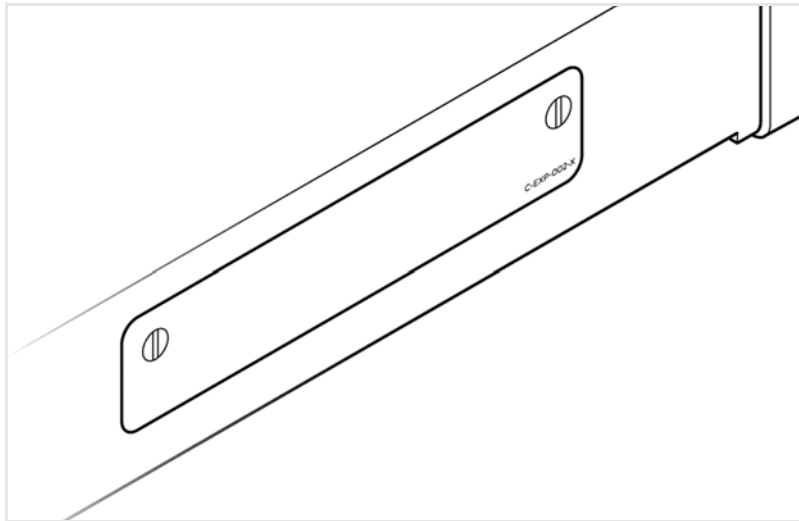

Figure 2.31: Rear of Analyzer: Blank Panel
1. Find the blank panel on the rear of the Analyzer (Figure 2.31).